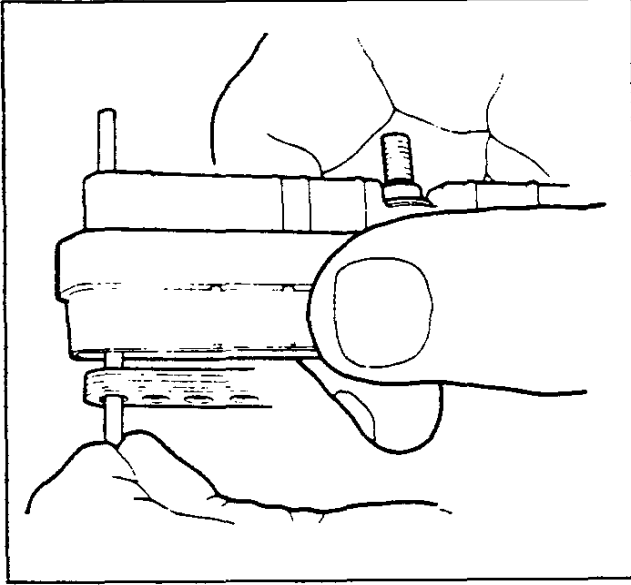

Figure 36
1. Position the cable through the seal and correct cavity of the connector (Fig. 36)